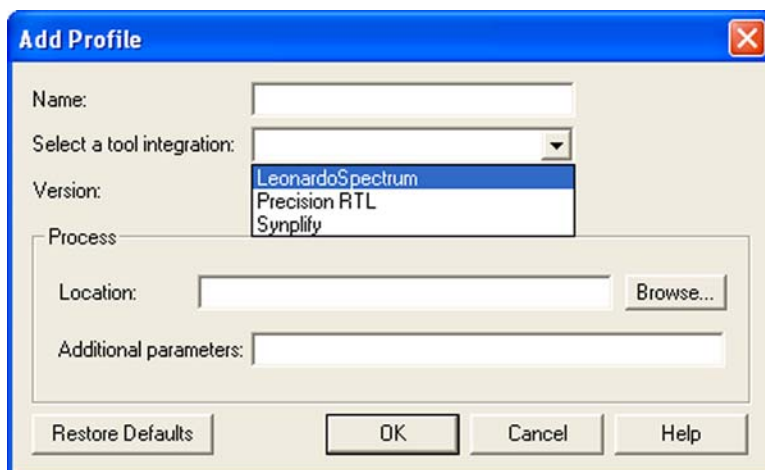

Figure 5-18. Add Profile Dialog Box in Libero IDE
9. Click the **Add** button to add a different Synthesis, Simulation, or Stimulus tool. If you wish to add a tool, Libero IDE opens the **Add Profile** dialog box (Figure 5-18).